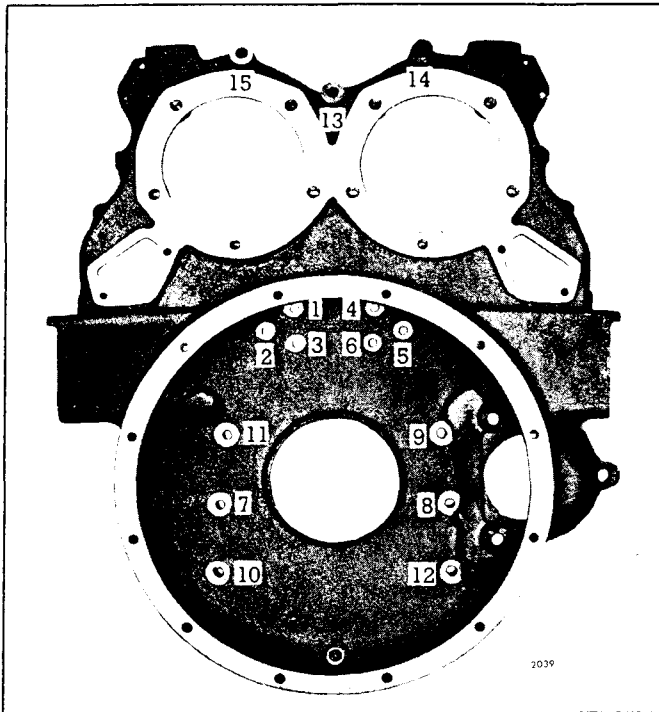
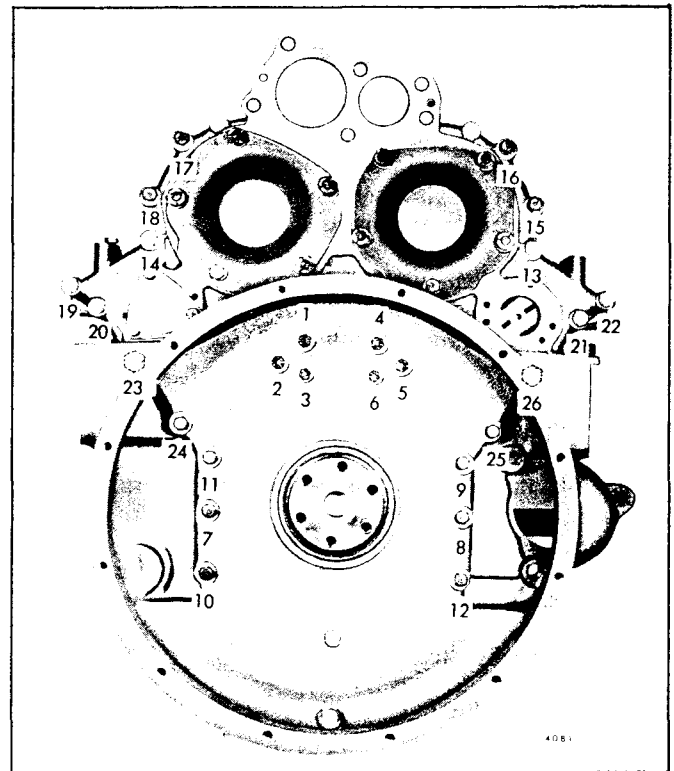

Fig. 3 - Flywheel Housing Bolt Tightening Sequence (Operation 1)-In-Line Engine
Fig. 4 - Flywheel Housing Bolt Tightening Sequence (Operation 1)-6V Engine
NOTE: If the engine is equipped with a clutch housing, do not install the six bolts numbered 7 through 12 (Fig. 3) until the clutch housing is installed.
8. On an In-line right hand rotation engine, start at No. 1 (No. 4 on left hand rotation engine) and draw the bolts up snug in the sequence shown in Fig. 3. On V engines, start at No. 4 on a right-hand rotation engine (No. 1 on a left-hand rotation engine) and draw the bolts up snug in the sequence shown in Fig. 4 and 5.